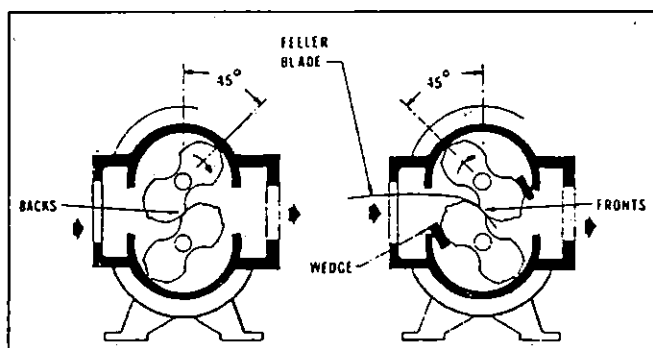

Figure 5 — Impeller Timing Viewed From Gear End
Item Numbers and their word descriptions from Figures 5 & 6. Also specify quantities wanted and the blower size and serial number from the nameplate.
3. **GEAR REMOVAL:** For this operation, the impellers should be wedged as shown in Figure 5. Back off gear clamping nuts (17) about 1/4". Use a puller of the type shown in Figure 10. Position it around the gear per Figure 9. As the puller set screw is torqued, the puller will have a tendency to turn and contact teeth of the other gear. To prevent this contact, hold the puller corner nut with a wrench while torquing the set screw. Once the gear is unseated, remove the puller. Remove gear nuts (17) and the gear. Repeat same procedure for the other gear. **NOTE:** Do not remove gear nuts (17) completely before the gears are unseated from the taper fits or damage/injury may result.
4. **GEAR INSTALLATION:** Place impellers in correct position as previously marked. Be sure shafts and gear bores are clean and free of scratches. Clean the shaft tapered fits. Place hardwood wedges as shown in Figure 5. Install drive gear (4) and gear nut (17) so match mark at tooth is at the line of engagement. Tighten the drive gear nut to the torque given in Table 5. Blower assembly must be fastened down for torquing operation.
5. Installing driven gear (4) - Insert a long, metal feeler gauge between the impellers' lobes at the fronts or backs as shown in Figure 5. Feeler gauge thickness to be a middle value from Table 6 for fronts and backs. Align the gear so the tooth match marks agree with the drive gear, then install nut (17). Tighten lightly with a small wrench, then check front and back clearances against Table 6 for each 45° position. Both fronts and backs should be about the same and within the specified range in Table 6. Adjust gear position, if necessary, then insert the corrected feeler gauge and wedges and use a torque wrench to tighten the gear nut to the torque specified in Table 5. Remove wedges and rotate the drive shaft by hand to make sure there are no gear tight spots or impeller contacts.